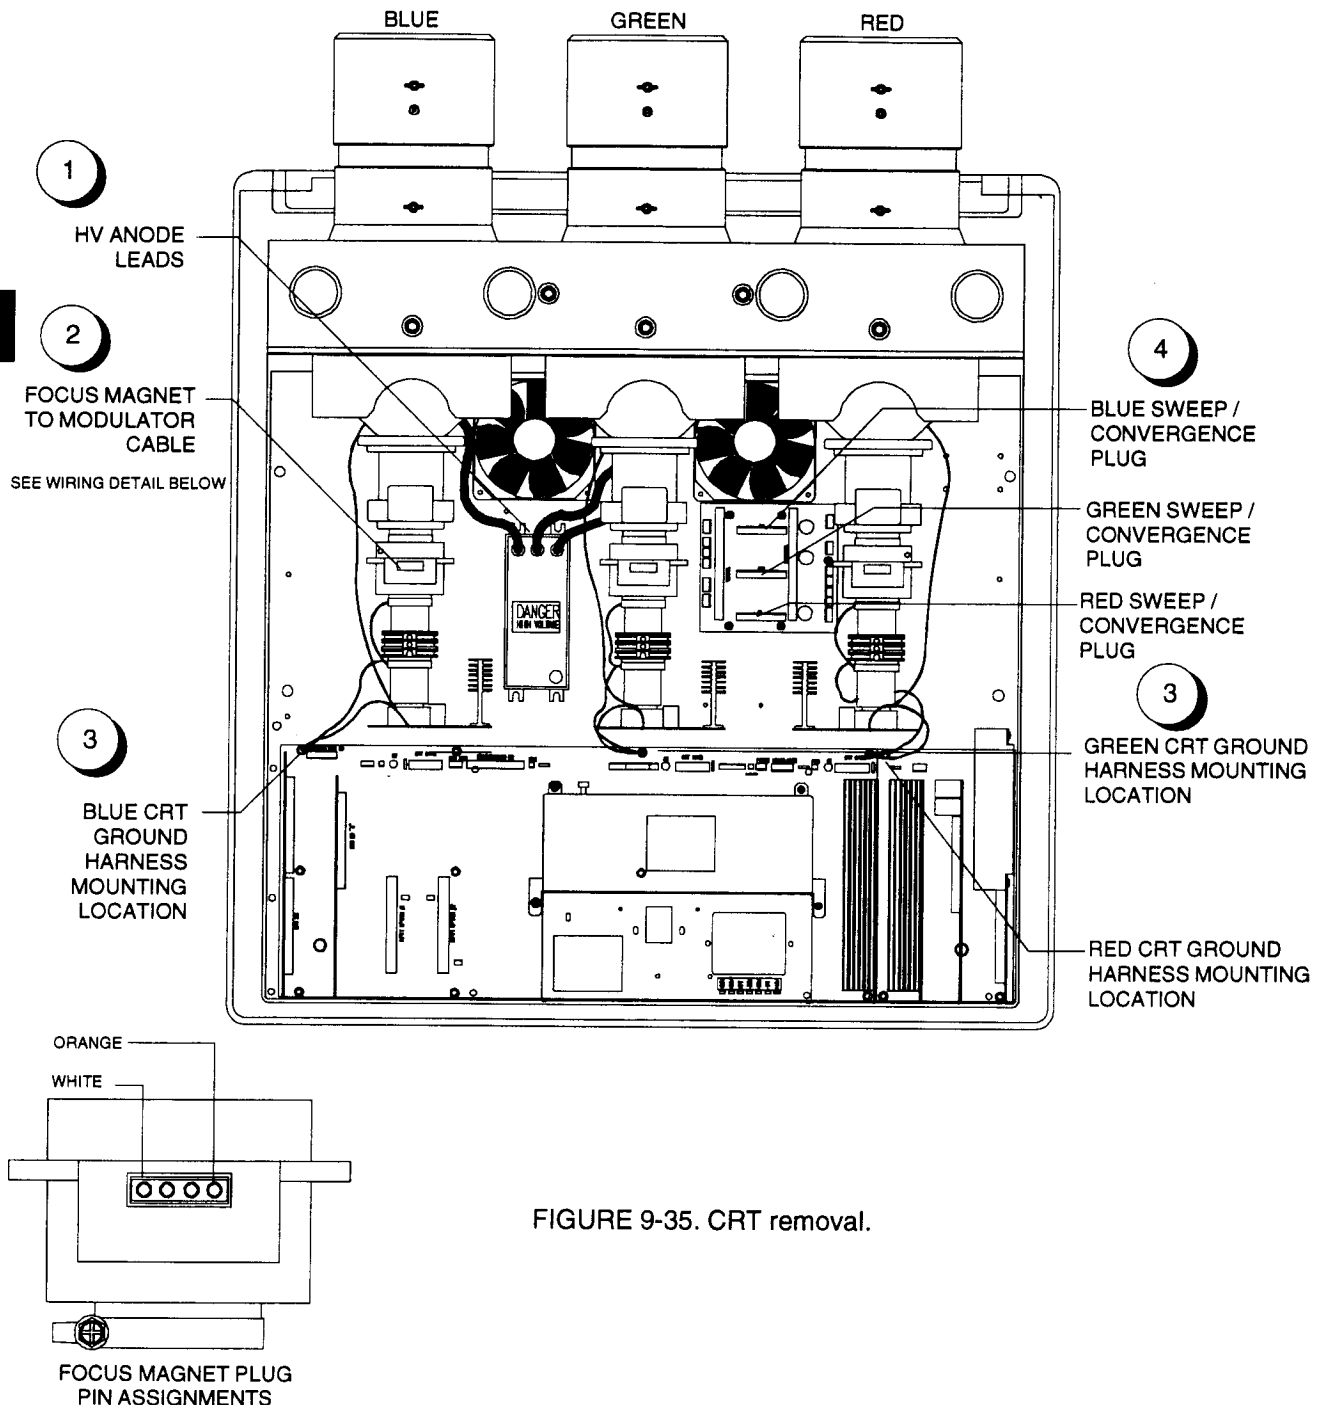

FIGURE 9-35. CRT removal.
- STEP 5. On the defective CRT disconnect the following; ① High Voltage anode lead, ② Focus magnet connector, ③ ground harness from the mother board location and ④ the respective sweep/convergence plug from the yoke interface board. See Figure 9-35.